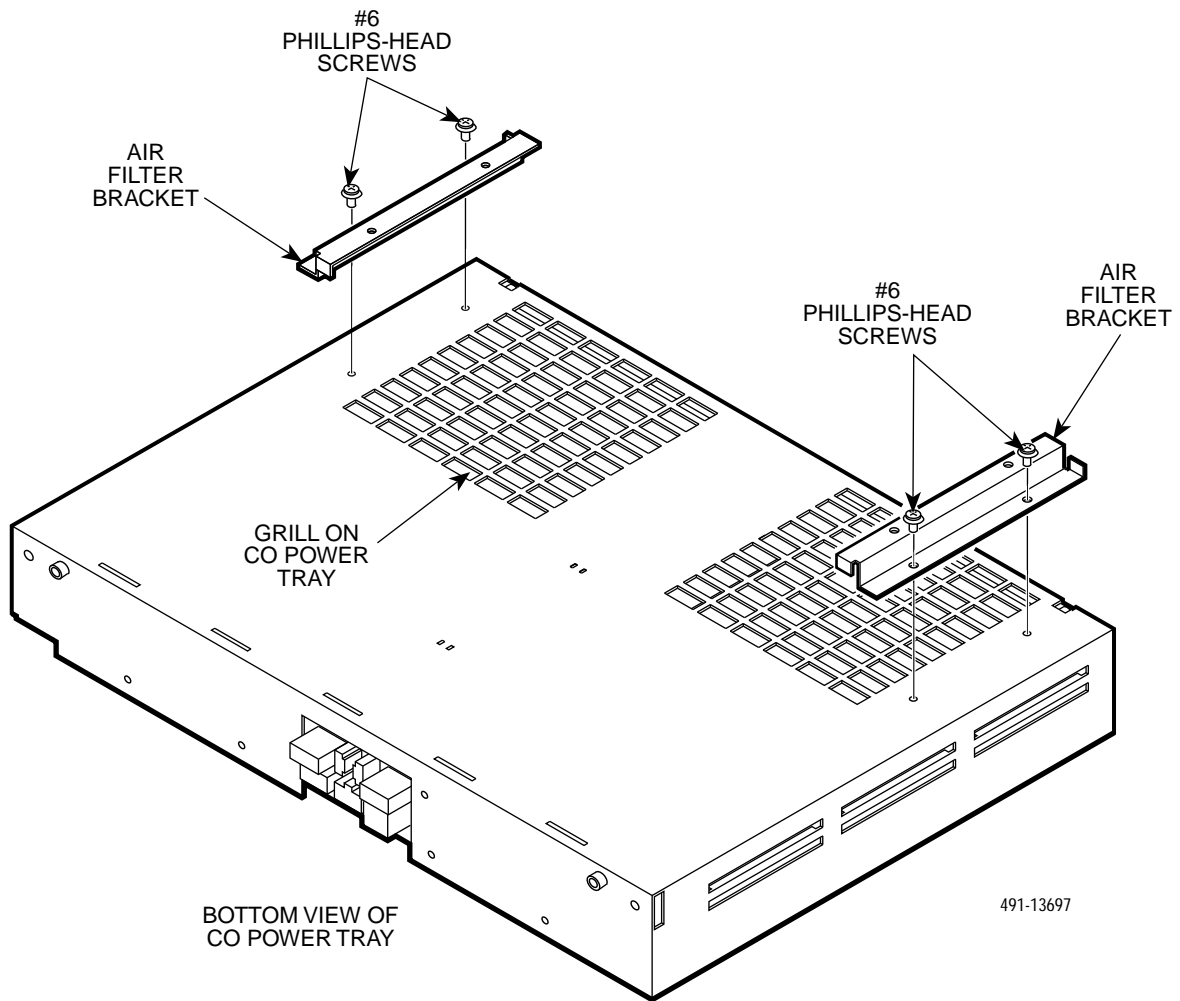

Figure 2-11. Air Filter Brackets Installation
2. Fasten the two identical brackets to the bottom of the CO power tray using the four #6 Phillips-head screws provided. See Figure 2-11.